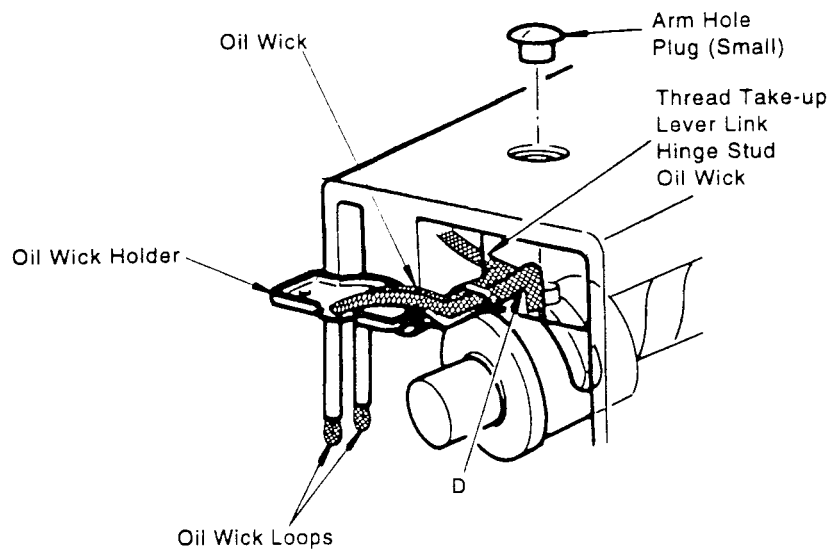

Fig.29
1. Remove arm hole plug (small), as shown in Fig. 29.
2. Insert the two oil wicks into the hole provided for them in the head of the machine, as shown in Fig. 29, so that wicks are slack over edge of oil wick holder at point D. This will insure free passage of oil. Using a screwdriver through hole at top of machine head, push the wicks down and bring them into positive contact with the thread take-up lever link hinge stud oil wick already installed.